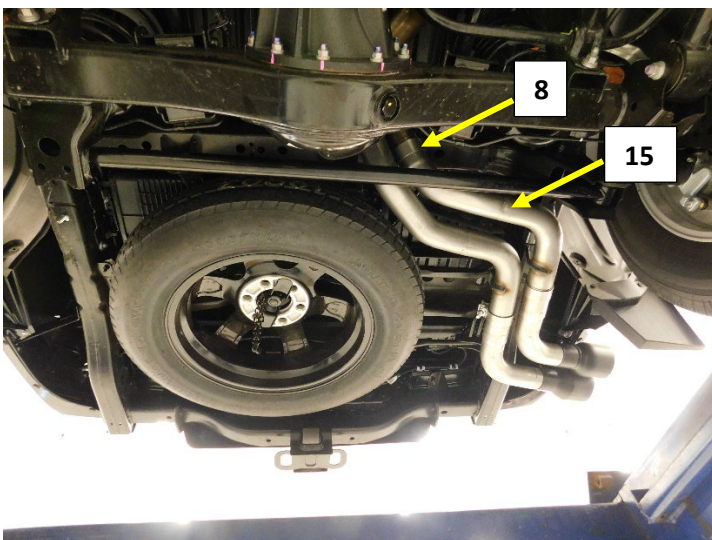

Figure.14
10. Install a 2.5" band clamp **(8)** on to the left tail pipe expanded end **(15)**. Position the clamp with the bolt at the top of the pipe and the nut facing the spare tire when the tube is installed on to the Left muffler outlet pipe **(6)**. **Fig.14**
11. Install the left tail pipe **(15)** on to the left muffler outlet pipe **(6)** just over the Panhard bar and upper 4 link bracket. **Fig.14**